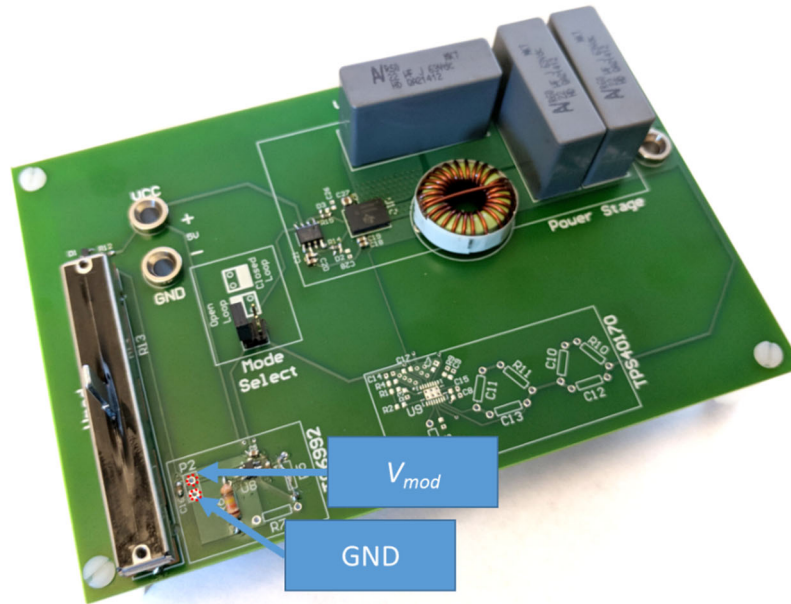

Fig. 4: Demo board used in Experiment 2, with the location of V_{mod} shown.
- Once the signal generator has been configured, connect the probe from the signal generator to V_{mod} . See Fig. 4 for the location of V_{mod} on the test board. Using a second probe, measure V_{mod} on Channel 1 on the front of the oscilloscope.